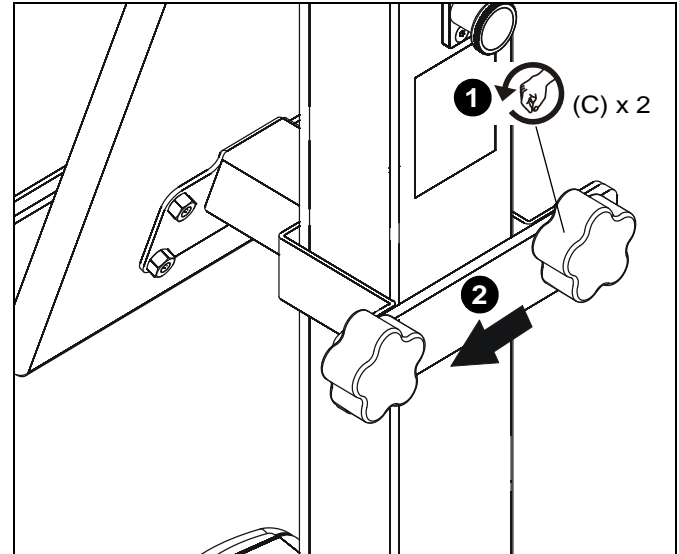

Figure 7
1. Loosen back bracket (D) by turning both knobs counterclockwise. Do NOT remove knobs. (See Figure 7)
2. Slide bracket to the left until it disengages from the right stud. (See Figure 7)